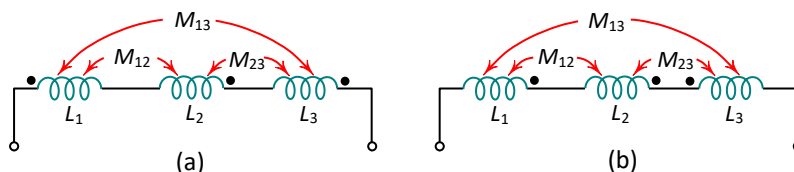

Fig.1-144: Series connected inductors for Ex.15 and 16
14. Determine the inductance value of the inductor shown in Fig.1-144.